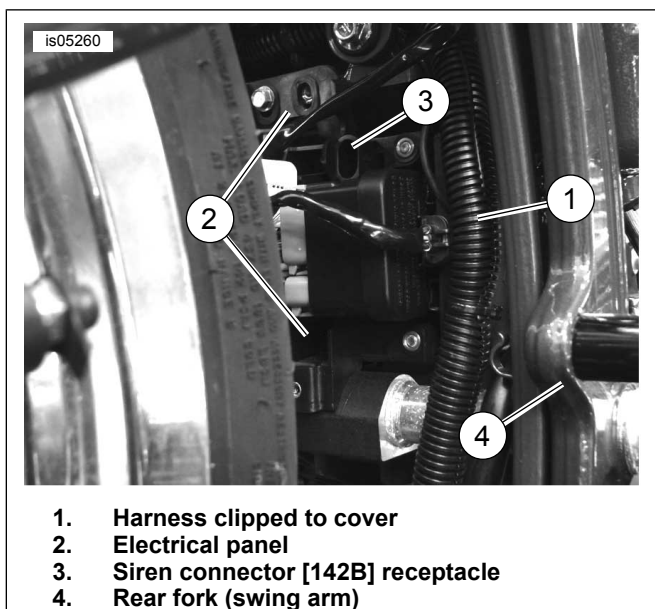

Figure 24. Electrical Panel (FXCW, FXCWC Models)
2. See Figure 24. Unfasten the harness (1) clipped to the right side of the electrical compartment cover (splash guard, already removed in photo) forward of the rear wheel. Remove the two hex socket head screws with washers fastening the cover. Remove the cover from the vehicle.
3. Remove the siren connector [142B] from the receptacle (3) near the top of the electrical panel (2).